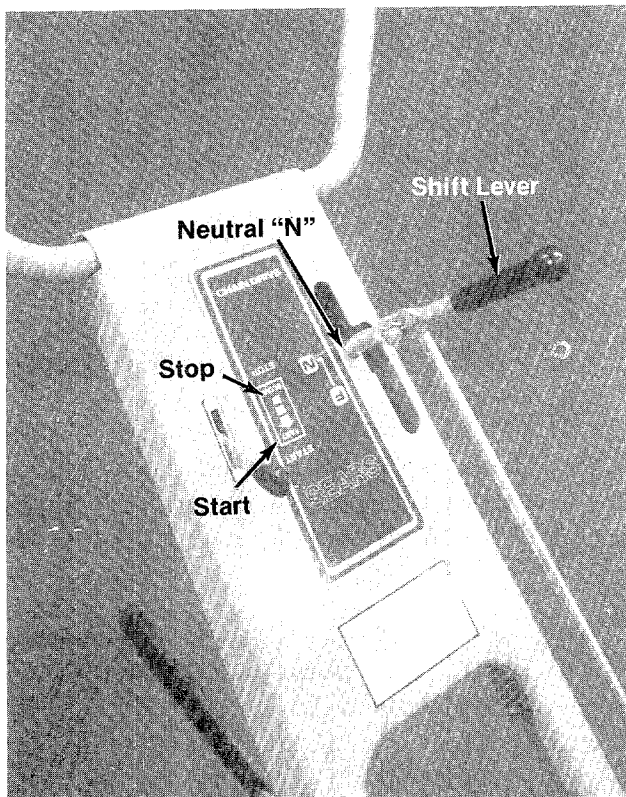

FIGURE 18.
4. Move the throttle control lever forward to START POSITION. See figure 18.
If engine is warm, start with the control in the "START" position. Choking may not be necessary. See figure 18.
**LOCATION AND USE:** See figure 18.
- A. Forward (F)—Move the lever to the left and down (Forward) to set unit in motion.
- B. Neutral (N)—Move lever to center detent.